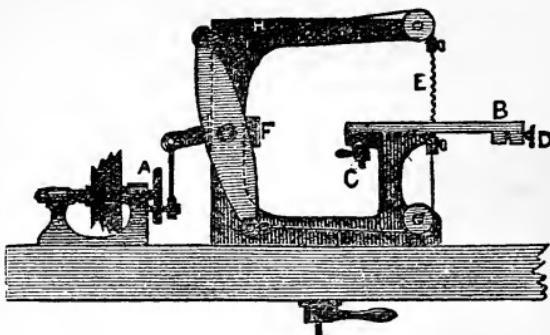

FIG. 1.
3. A vibrating fret-saw. Fig. 1 is a side view of the in-
**Brazing Band-Saws.**—In fig. 1, G, a large cast-iron cramp to hold the saw while brazing it, is 3 ft. 6 in. long, a foot deep, and 3 in. wide. It is made hollow to allow the bolts AAAA to pass through the surface P. There is an open side left to get over this difficulty. M is the foot for resting on the bench; TT are two bolts for holding it to the bench. O is a recess planed in the surface, of  $\frac{1}{4}$  in. wide,  $3\frac{1}{6}$  in. deep, for laying the saw in, so that it just comes level with the surface. PK represents a vacancy for the tongs; it should be made